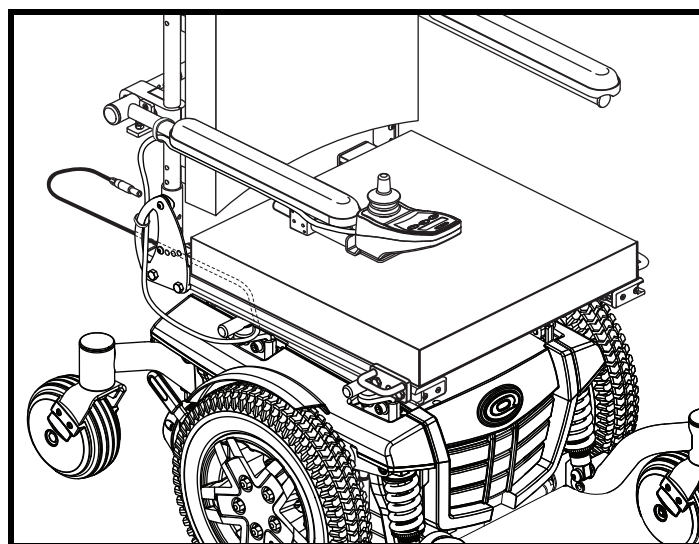

Figure 8. Controller Harness Routing on a Synergy Seat
5. Secure the controller harness to the armrest receiver with wire ties. See figure 8.